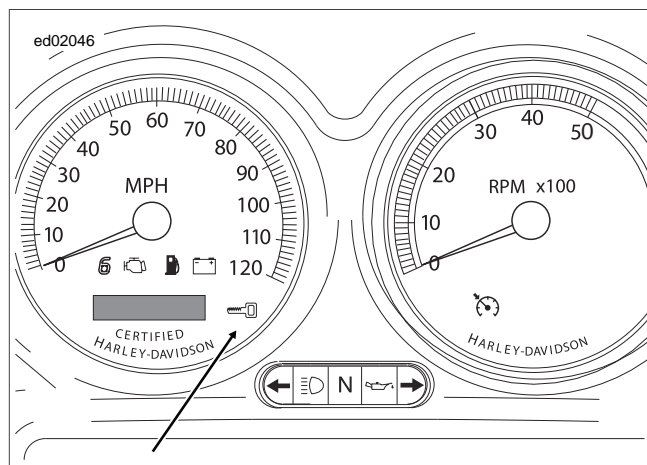

Figure E-3. Security Lamp (Key Icon - Typical)
- **Security lamp (key icon):** See Figure E-3. A lamp within the speedometer face tells the rider if the system is armed or disarmed.